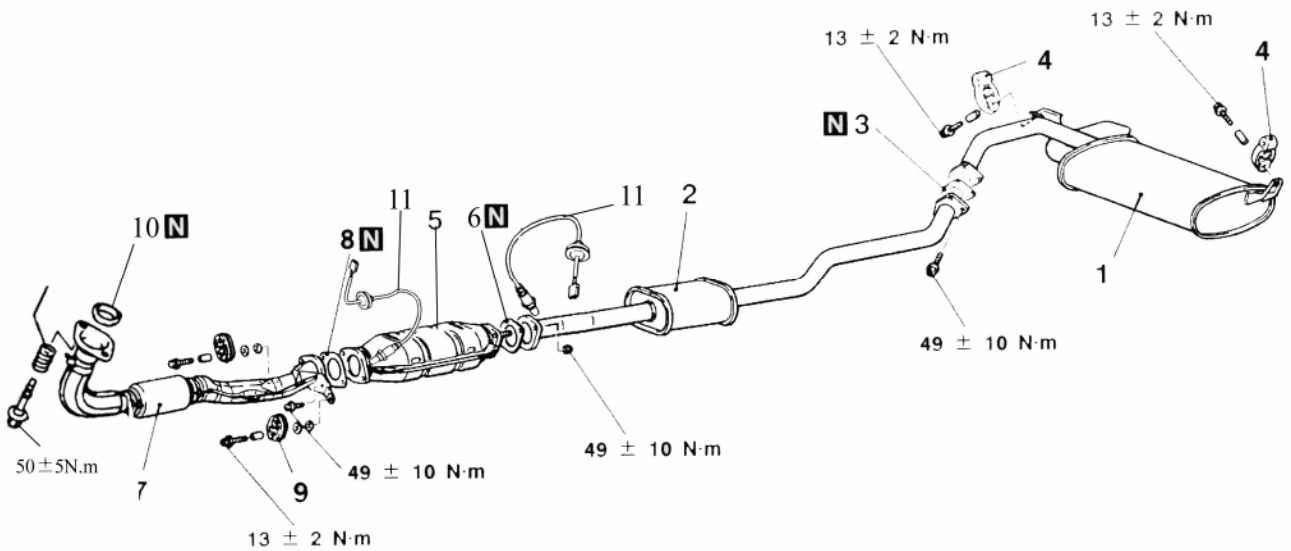

Fig. 8-2a
1. REMOVAL AND INSTALLATION (see Fig. 8-2a)